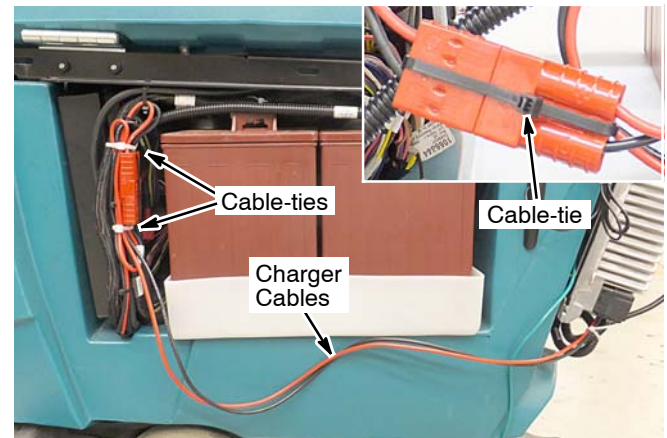

FIG. 24
10. Plug the battery charger cable connector into the machine connector and fasten together with cable-tie. Arrange connectors as shown and secure with cable-ties (FIG. 24).